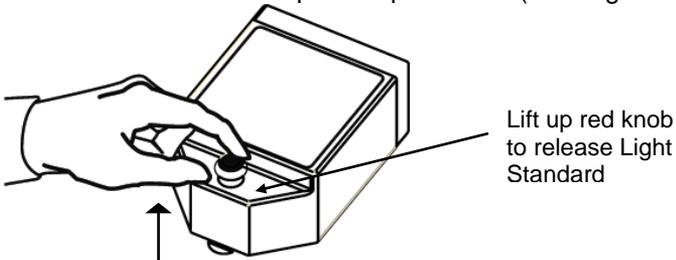

Figure 15
2. Grasp and lift the red knob located in the center of the Light Standard to unlock it from the sample compartment. (See Figure 15.)